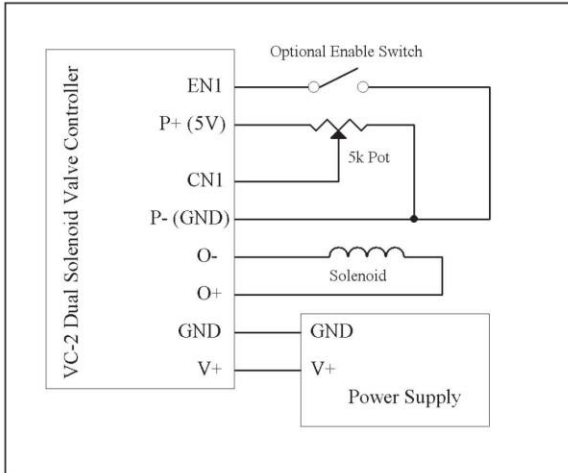

Figure 4. Setpoint Signal Wiring
Step 3: Wire a setpoint to the VC-2 (Figure 4 and 5 for schematics)
- Connect external setpoint to CN1+ and P-. The same is true for both 0-5 VDC (VC-2) and 4-20mA (VC-2C) in this configuration (See Figure 4).